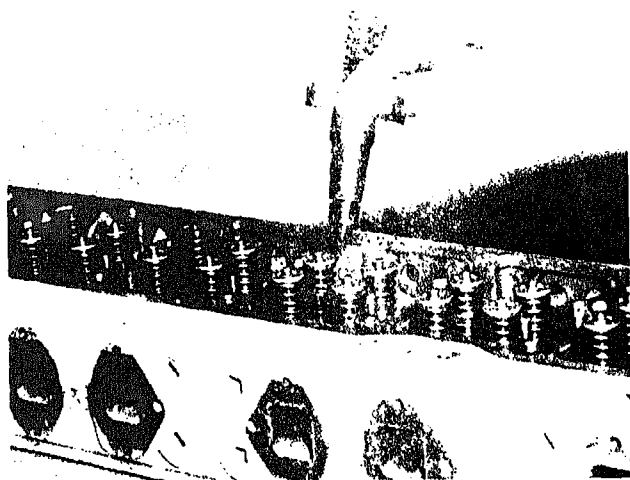

Fig. 0-36. Removing injectors
2. Pry injectors loose and remove from head, Fig. 0-36, being careful not to damage injector cup tips.